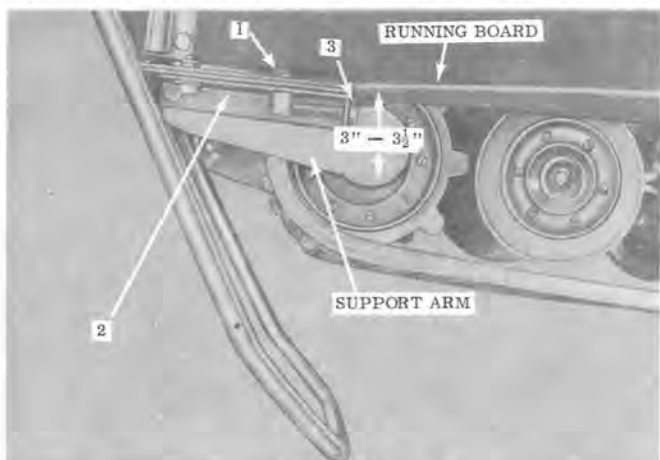

Figure 25
2. Check track tension by measuring the distance between the bottom of the running board and the bottom edge of the support arm. Measurement should be 3" minimum and 3½" maximum. Figure 25 shows point of measurement.
3. If adjustment is needed, loosen two bolts (No. 1, Figure 25) on each side that secure the adjuster plate (No. 2, Figure 25). Turn adjusting bolt (No. 3, Figure 25) clockwise to tighten and counterclockwise to loosen until proper 3" to 3½" measurement is achieved on each side. Adjust both sides equally. Track should have a slack of about 2" to 2½" in the center.
4. Before retightening bolts (No. 1, Figure 25) check the track alignment as outlined below.
3. If the track is not centered tighten the adjusting bolt (No. 3, Figure 25) on the side where the track is closest to the adjuster plate until track is centered.
4. When adjustment and alignment of track is completed, retighten the two bolts (NO. 1, Figure 25) on each side.